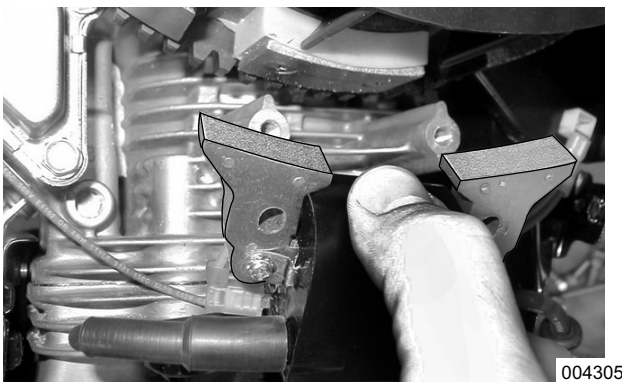

Figure 4-10. Remove Ignition Coil
5. See Figure 4-10. Remove ignition coil screws and remove ignition coil(s).